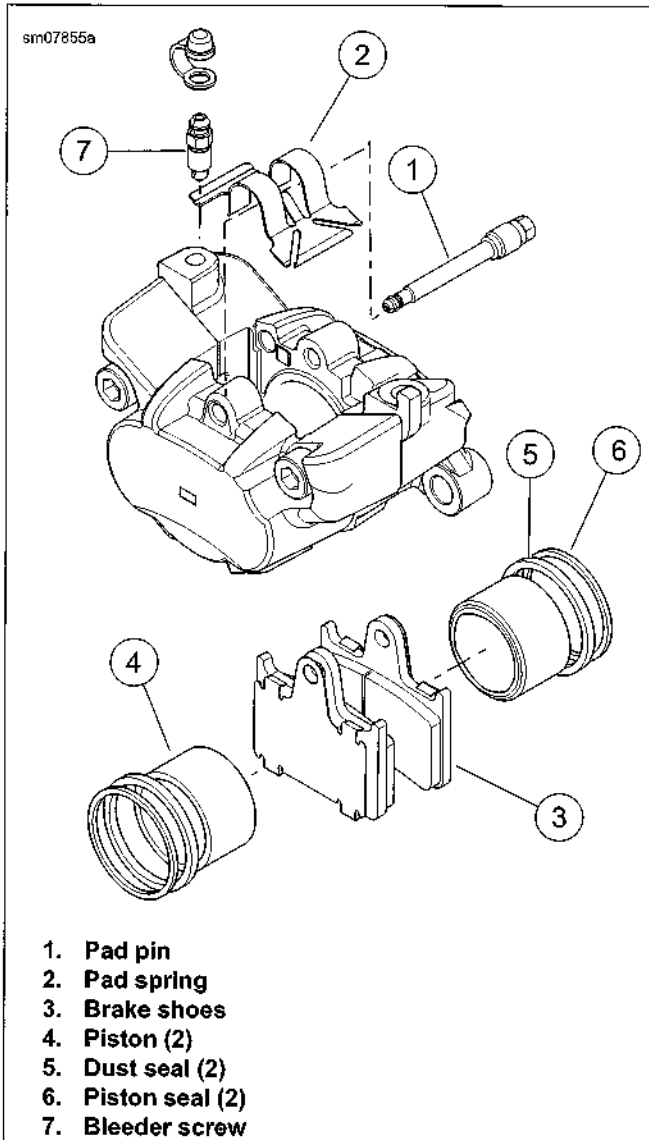

Figure 2-72. Rear Brake Caliper
1. See Figure 2-72. Remove pad pin (1).
2. Remove pad spring (2).
3. Remove brake pads (3).